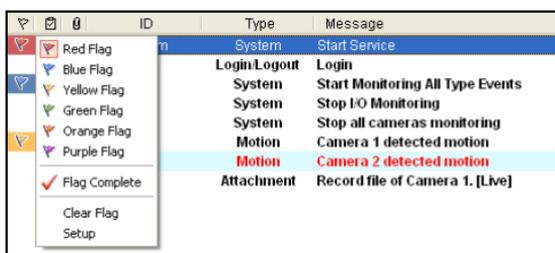

Figure 1-29
1. On the Event List window, select one event, and right-click in the flag column. The flag list appears (see Figure 1-29).